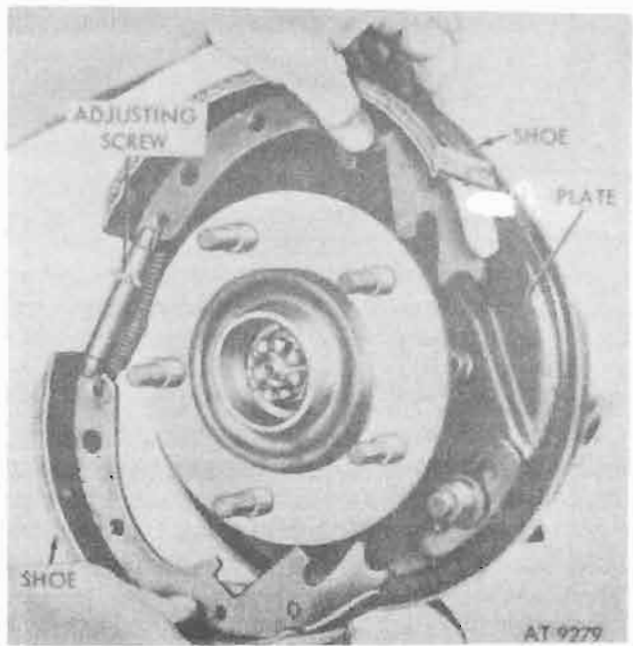

Figure 10-39. Brakeshoe and adjusting screw and spring assembly.
k. Open brakeshoe assembly and remove brakeshoes from backing plate (fig. 10-39).